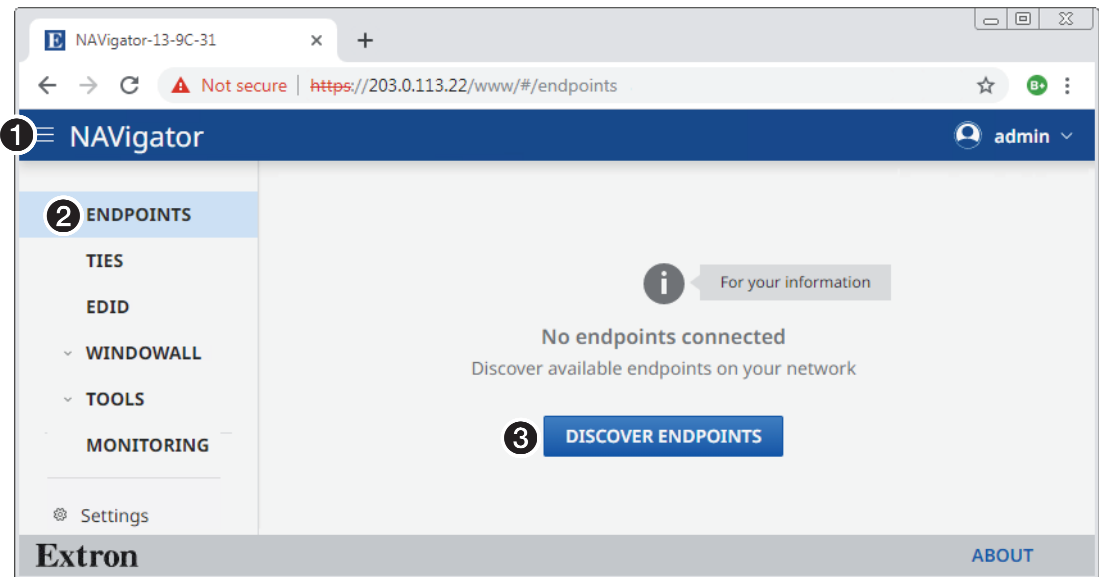

Figure 24. Discover Endpoints
1. If necessary, click the **Menu** icon (see figure 24, ❶).